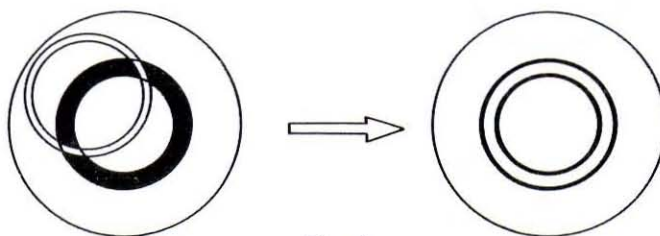

Fig. 9
- 6) Operate the centering screws ③ of the light annulus until both annuli are concentric and superimposed. (Fig. 9)